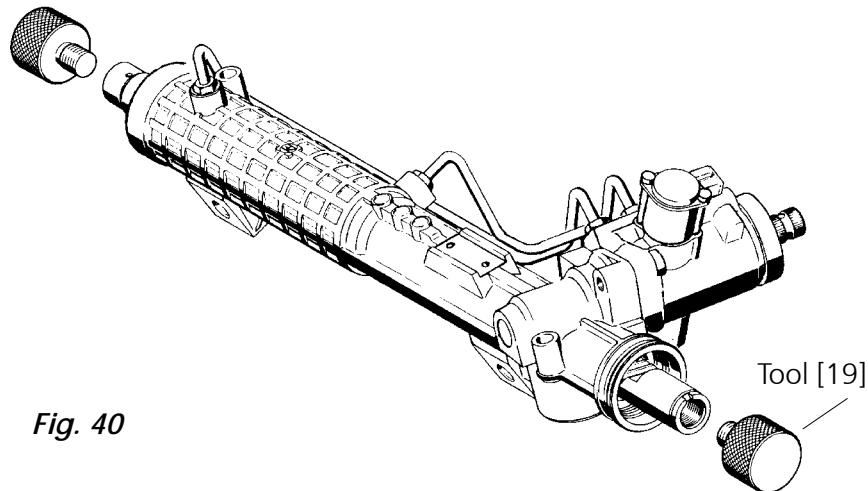

Fig. 40
Fit the tie rods (131) or tools [19] at either side (see Fig. 40).